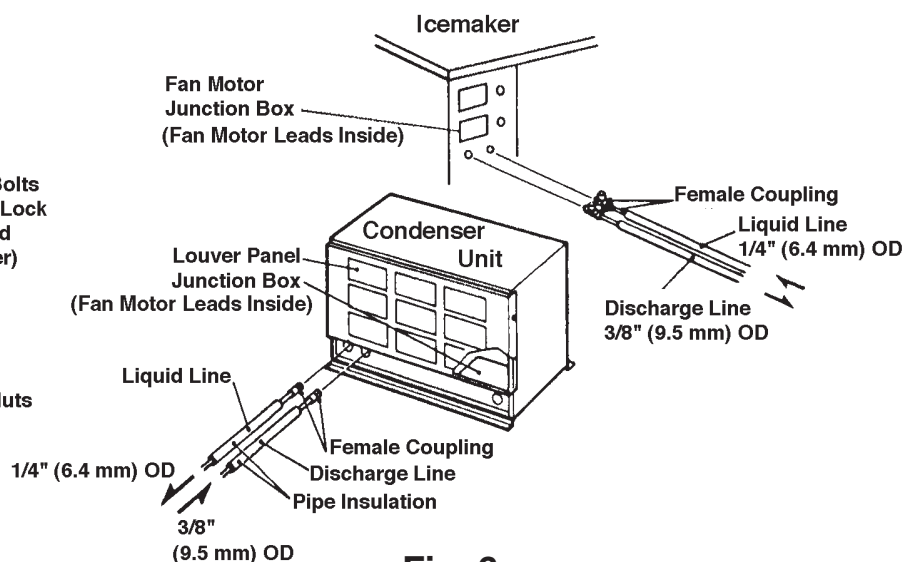

Fig. 6
3) Install enough length of two copper tubings provided with Parker quick connect couplings between the icemaker and the condenser unit. The two copper tubings should be insulated separately. See Fig. 6.